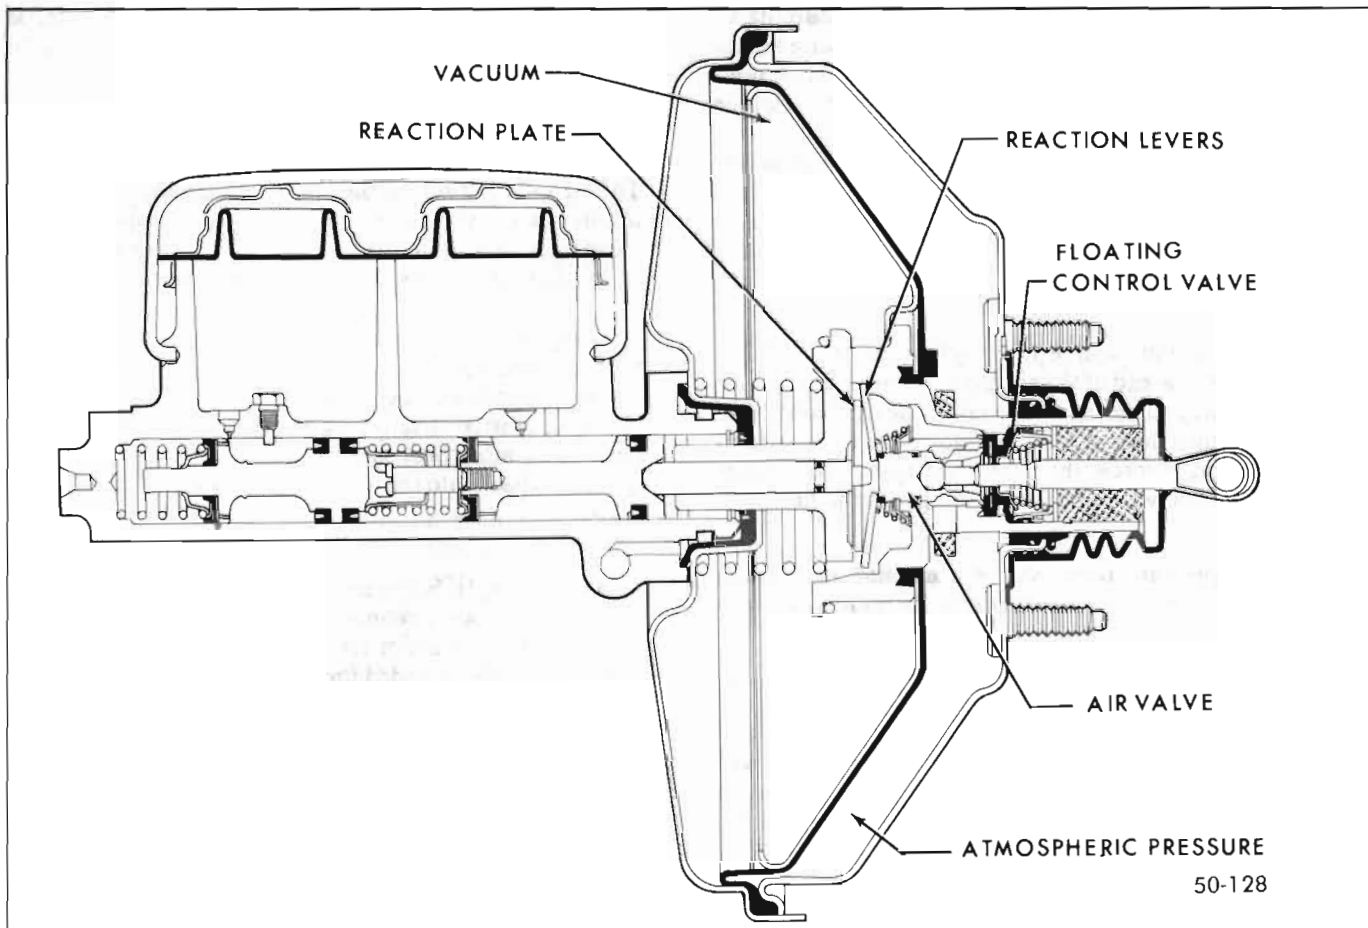

Figure 50-99 Power Brake Unit - Holding Position
3. Holding Position. When the desired pedal pressure is reached, the power piston moves to the front until the floating control valve, which is still seated on the power piston, again seats on the air valve. The power brake will now remain stationary, until either pressure is applied or released at the brake pedal. See Figure 50-99.